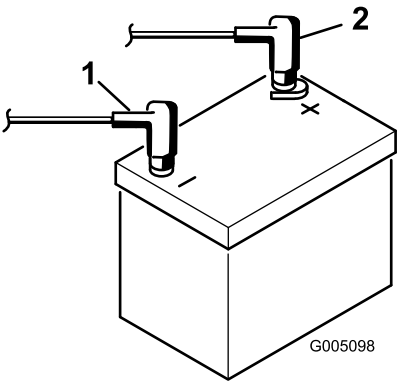

Figure 7
8. Install the positive cable (red) to the positive (+) terminal and then the negative cable (black) to the negative (–) terminal of the battery and secure them with the bolts and nuts (Figure 7). Slide the rubber boot over the positive terminal to prevent a possible short from occurring.